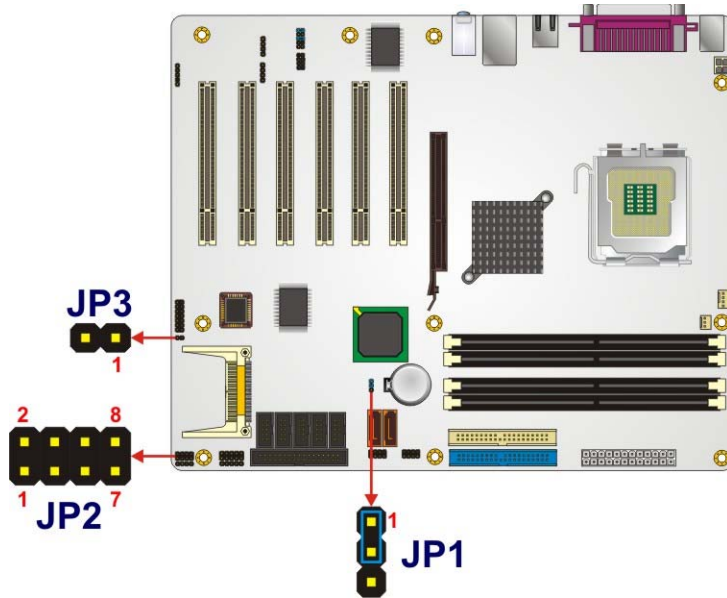

Figure 5-9: Jumper Locations
- Jumper Location:** See Figure 5-9
Jumper Location:	See Figure 5-9
- Jumper Location:** See **Figure 5-9**